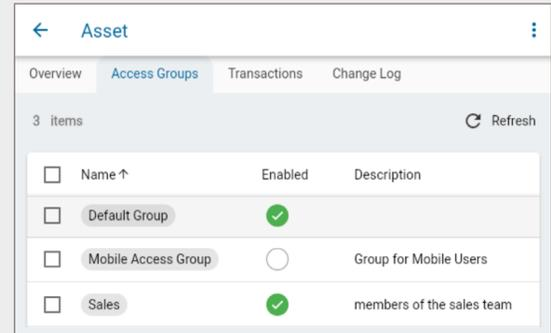

Fig. 57 – Asset screen – Access Groups tab
15. Click the **Access Groups** tab, as shown in Fig. 57.